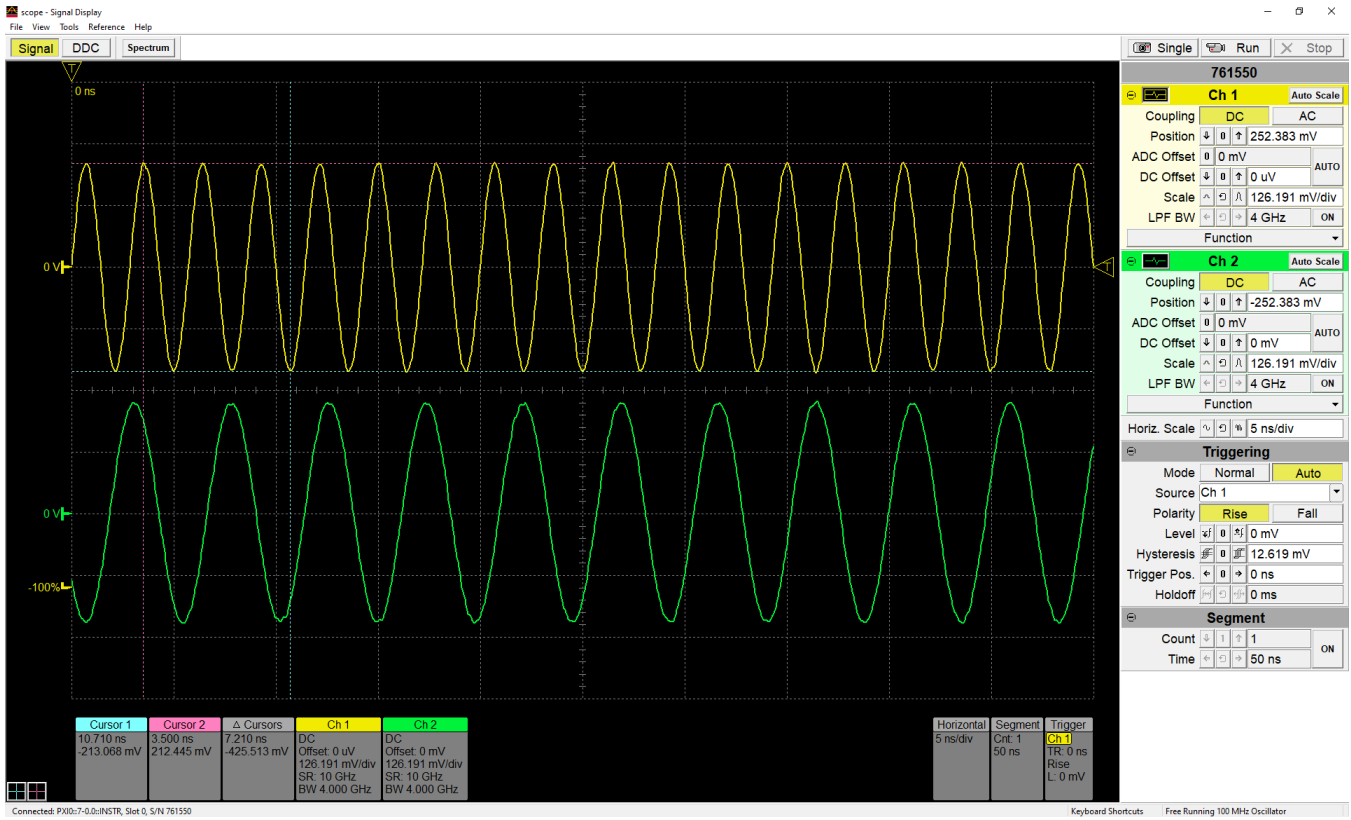

Figure 21. Signal (time domain) display with software control panel
- Signal Display mode – to observe input signal in time domain (See Figure 21)